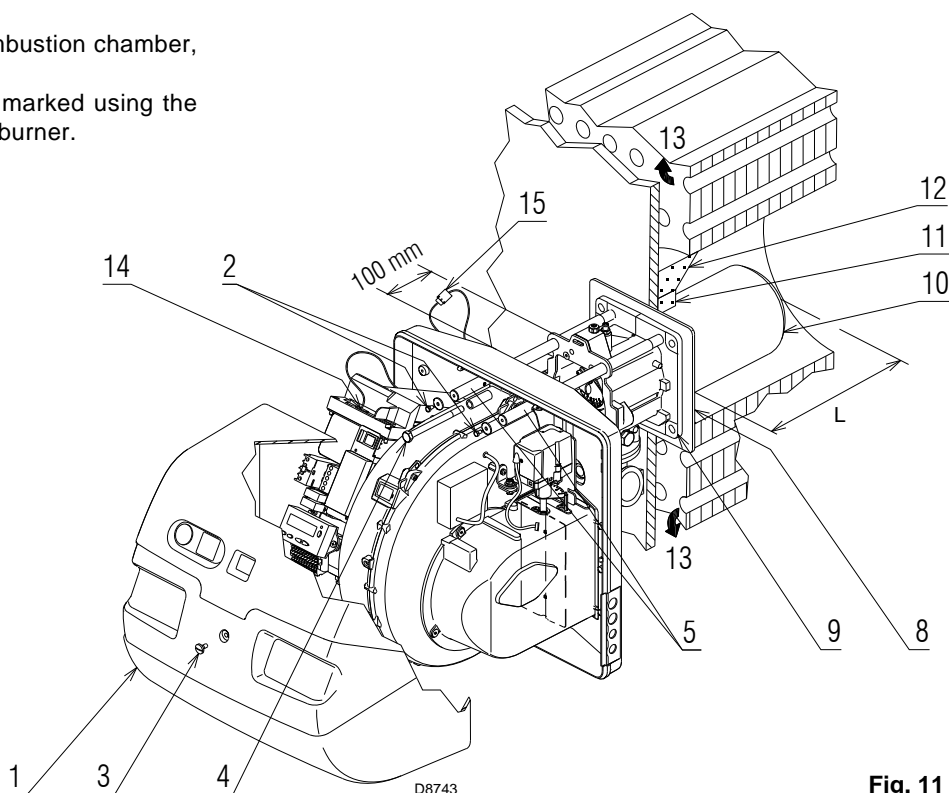

Fig. 11
For boilers with front flue passes (13), a protection in refractory material (11) must be inserted between the boiler refractory (12) and the blast tube (10). This protection must not compromise the extraction of the blast tube. See Fig. 11.
Separate the combustion head from the rest of the burner, Fig. 11.
Fix the flange 9)(Fig.11) to the boiler plate, interposing the supplied insulating gasket 8)(Fig.11).
- reassemble the burner on the guides 3) at about 100 mm from the pipe coupling 4) - burner in the position shown in Fig. 11;
- connect the plug of the servomotor 14)(Fig. 11) and tighten the cable grommet 15)(Fig. 11);